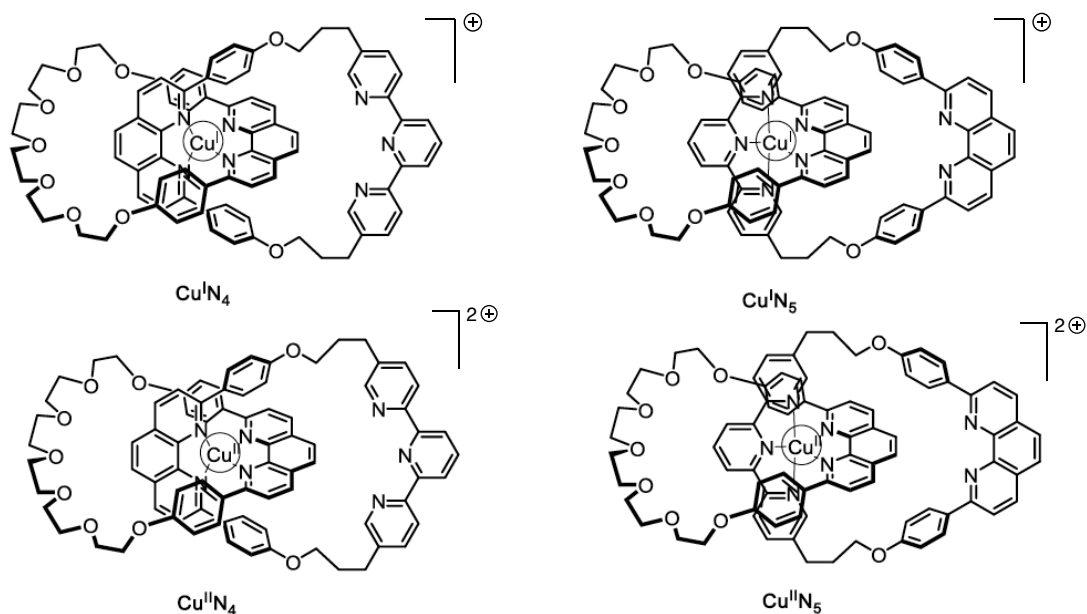

Fig. 2 – [2]catenane **L** states
11. **Write** the appropriate complexes from Fig. 2 in the solid boxes. **Fill** in the dashed boxes with one of the following symbols:  (rotation);  $+\text{e}^-$ ;  $-\text{e}^-$  to illustrate the electrochemical changes in the system.